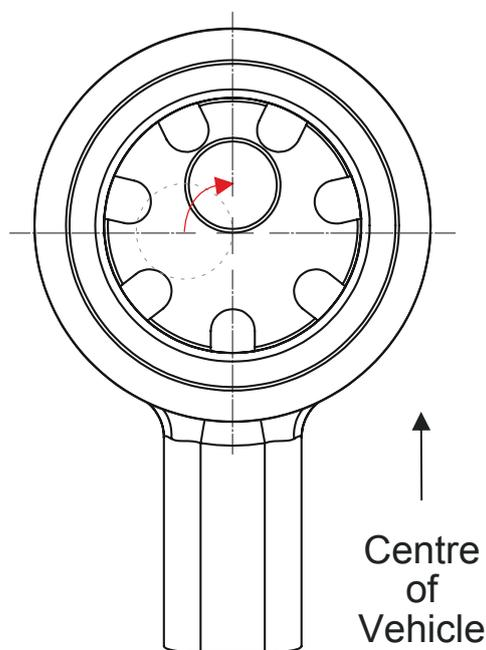

Figure 1
5. Apply some provided grease to bore and mounting faces of each bush. Fit the stainless steel sleeve into bush with machined sleeve face facing forwards on vehicle (flush against polyurethane B bush) as shown in Figure 1.
6. For maximum camber use supplied spanner to rotate sleeve so that the bore is closest to centre of vehicle, as shown in Figure 1.